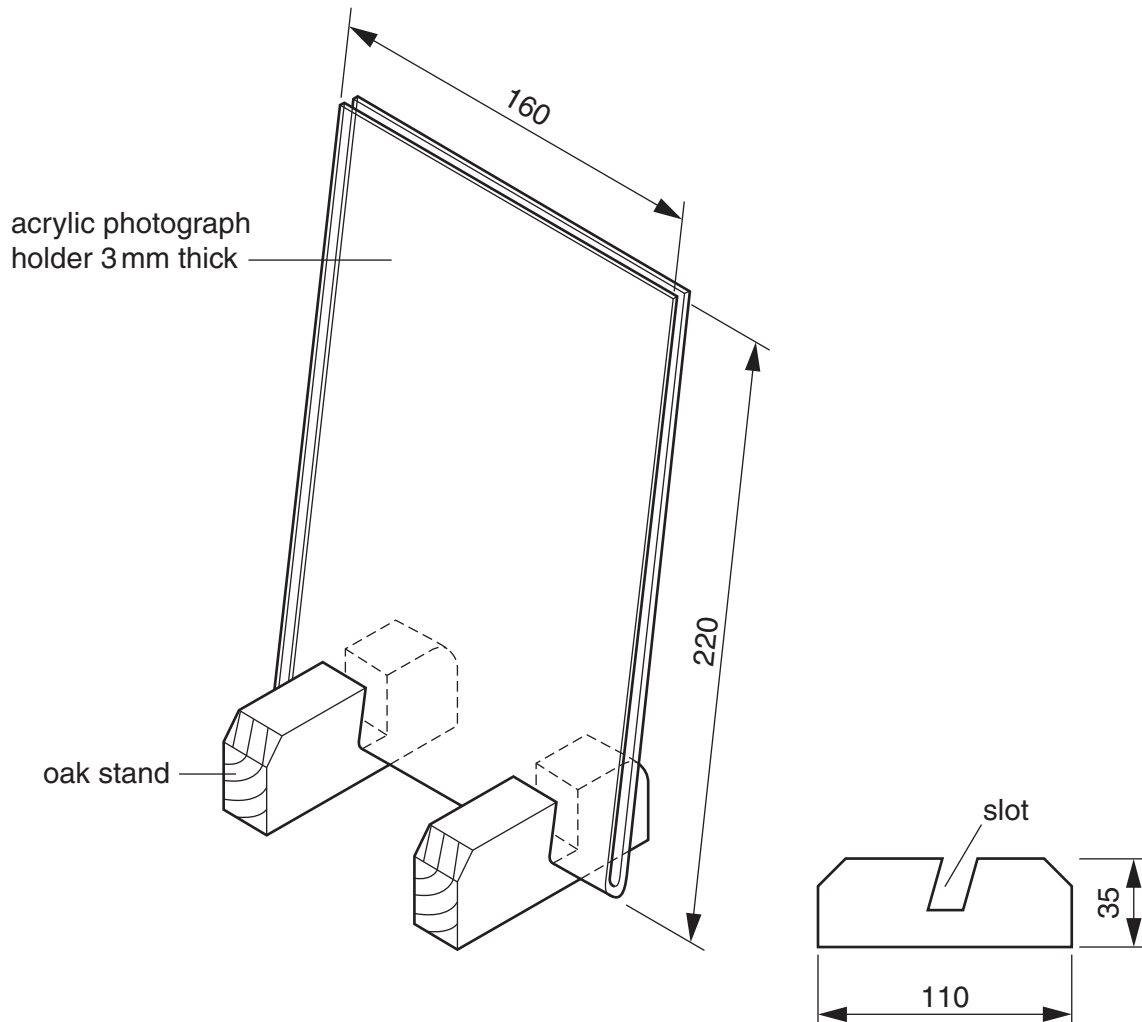

Fig. 1
- 1 Fig. 1 shows views of a photograph holder and stand.